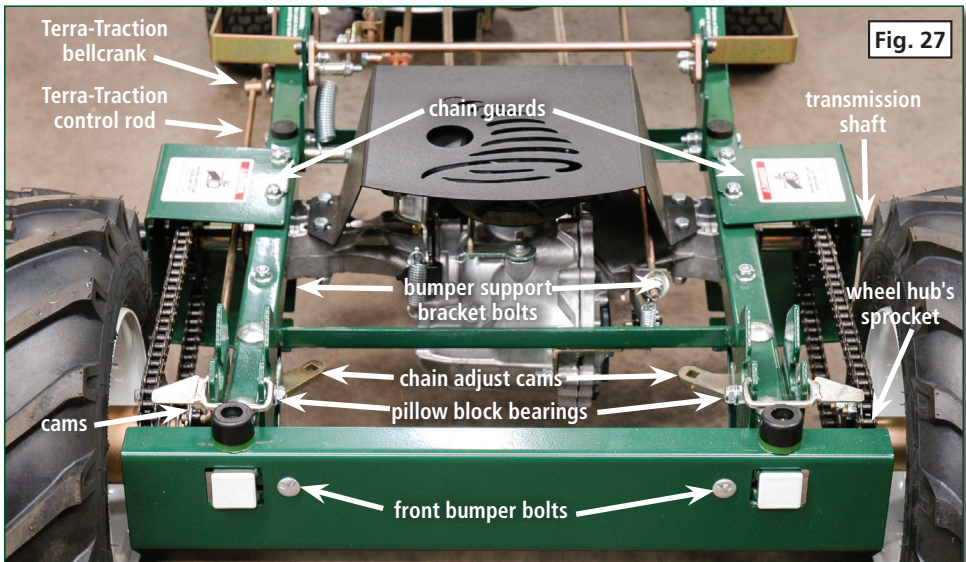

Fig. 27
2. Remove the bin for best access. (Figure 27)
3. Remove the two 5/16-18 bumper support bracket hex bolts and the two 5/16-18 carriage bolts holding the front bumper to the front of the chassis. Set these aside. (Figure 27)
6. Locate the Terra-Traction bellcrank attached to the Terra-Traction control rod. (Figure 27). Remove the R-clip and washer holding the threaded swivel in the bellcrank. Slip the threaded swivel out of the bellcrank and allow to sit loose. (Figure 29)
7. Reach into the chassis of the SuperHauler and locate the two chain adjust cams. (Figure 27)
9. Locate the transmission shaft. Remove the vinyl shaft cover on each side of the transmission. (Figure 27)